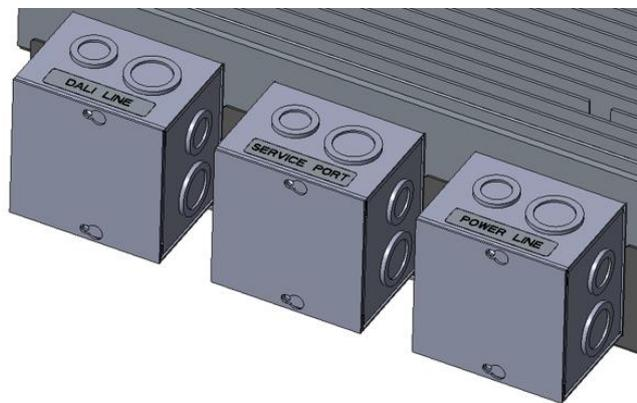

Fig. 42 Rear of the projector 74-00062-01/74-00063-01
- A. Open the lid of the junction box with the “POWER LINE” label (Figure 42).
- F. Repeat these operations on the junction box with the “DALI LINE” label for the DALI connections (Figure 42).